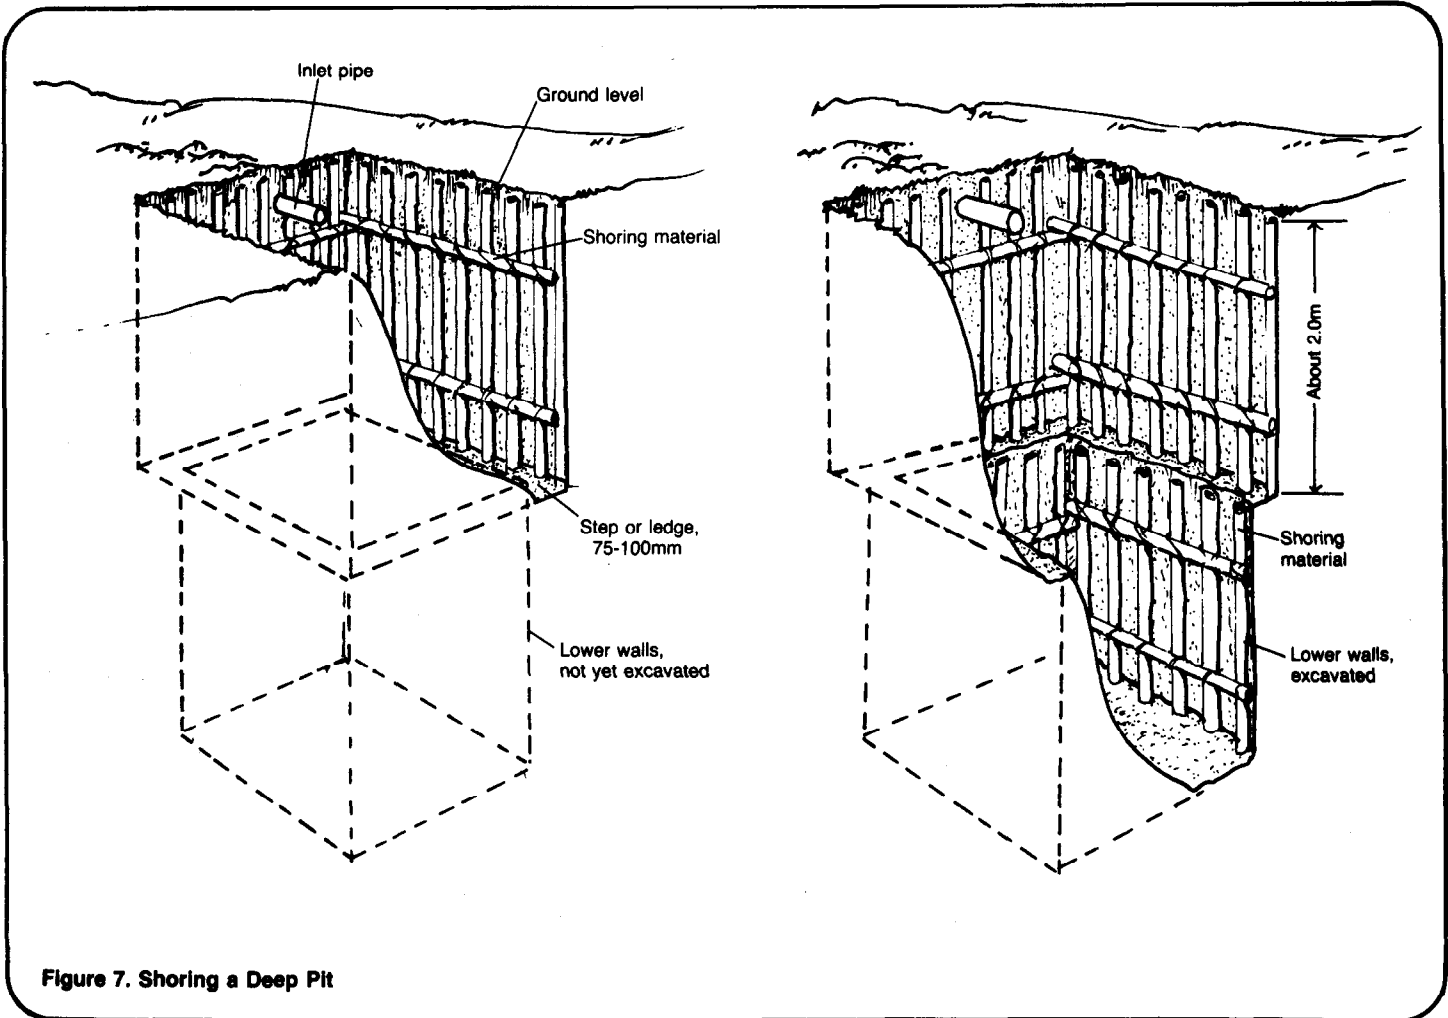

Figure 7. Shoring a Deep Pit
2.0m, secure shoring materials in place. Continue excavating, leaving a 75-100mm wide ledge or step around the walls to support the upper shoring. When the pit reaches the design depth, measured downward from the inlet pipe, shore up the lower walls. See Figure 7. The bottom of the pit should be fairly level.